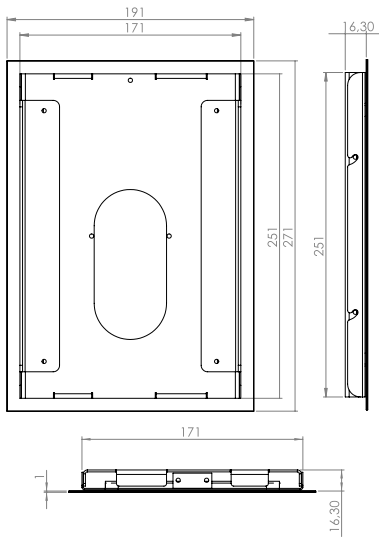

Fig. 16
- Abb. 16: Dimensions recess for TWE for Apple iPad Mini oder Samsung Galaxy Tab S2 8.0 (B x H x T): 171 x 251 x 15 mm